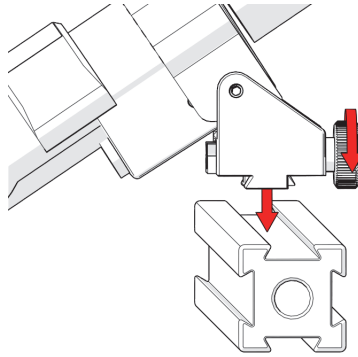

Figure 2-66 Mount on frame bar
2. Mount the laser guide on the frame bar, and then tighten the laser guide knob (see Figure 2-66 on page 92).